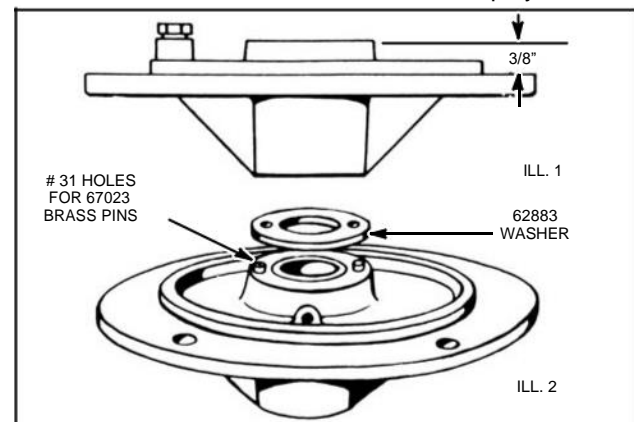

Fig. 113 - REPAIRING WORN THRUST FACE
If the thrust face on the crankcase cover becomes worn it may be repaired by using bronze thrust washer, Part #62883 (NLA), Fig. 113. Proceed as follows:
Place crankcase cover in a lathe and cut down thrust face until distance between thrust face and mounting is  $\frac{3}{8}$ " Fig. 113, Ill. 1. Drill two (2) No. 31 holes in the thrust face using thrust washer, Part #62883 (NLA) as a jig. Holes should be on a horizontal line with the center of bearing. Be sure washer is centered, Fig. 113, Ill. 2.